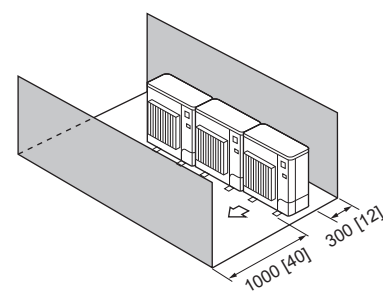

Fig. 2-15
- Obstacles at front and rear only (Fig. 2-15)